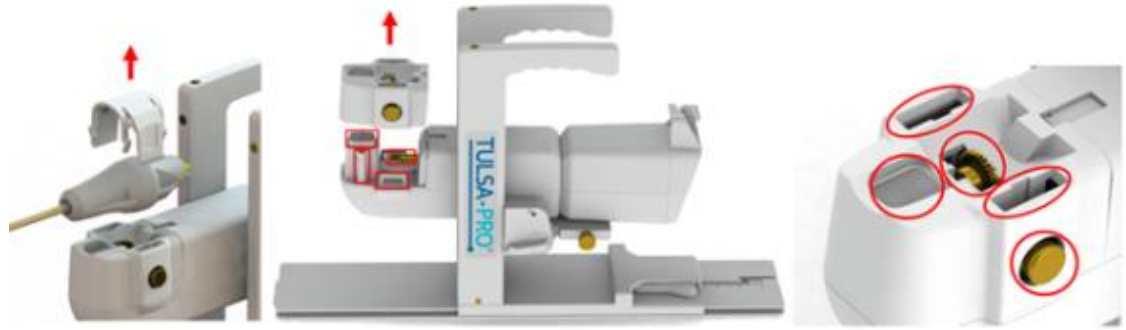

Figure 62: Inspecting the Positioning System
- c. Repeat steps 1 and 2 as necessary until no visible soiling remains, closely inspecting the areas around the gripper and gear (*Figure 62*).